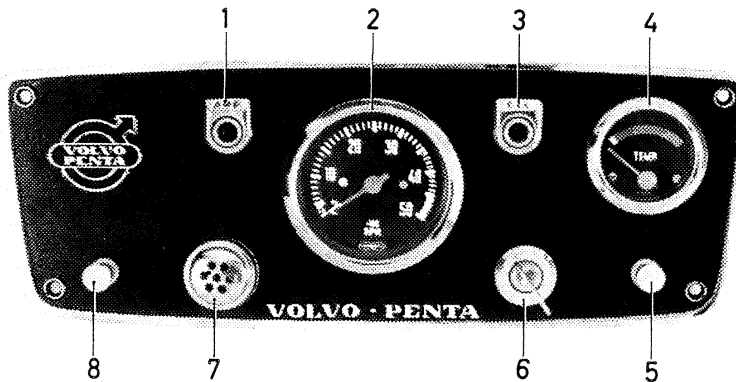

Fig. 5. Instrument panel, single engine installation
4. Turn the starting key to position 3 and keep it in this position until the control resistance (7, Figs. 5 and 6) glows. The time required for pre-heating varies with the engine temperature but is normally 40–60 seconds. When starting a warm engine, no pre-heating is required.